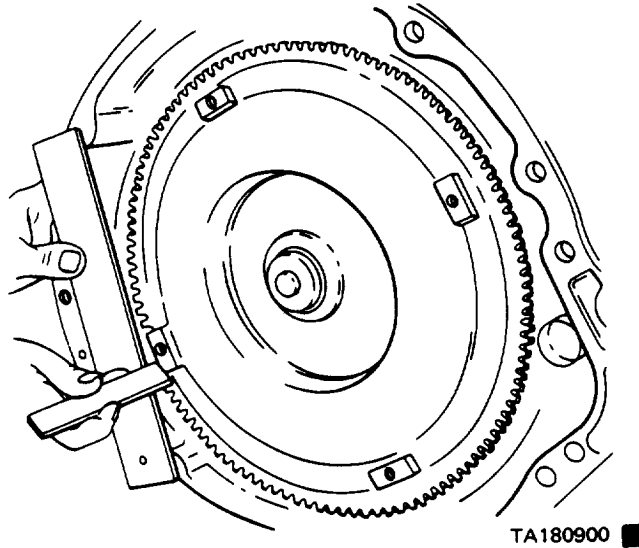

Figure 4-38. Measuring Converter for Full Engagement in Transmission.
b. Carefully slide the converter assembly over the input and reaction shafts. Make sure the converter hub slots are also vertical, and fully engage the pump inner rotor lugs. Test for full engagement by placing a straightedge on the face of the case (figure 4-38). The surface of the converter front cover lug should be at least one-half inch behind the straightedge when the converter is pushed all the way into the transmission.